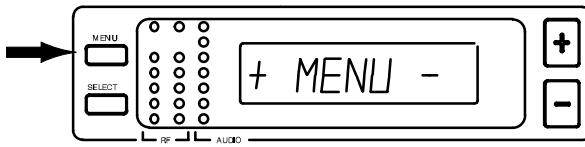

FIGURE 16
1. Press the MENU button. The "+ MENU -" display appears, as shown in Figure 16.